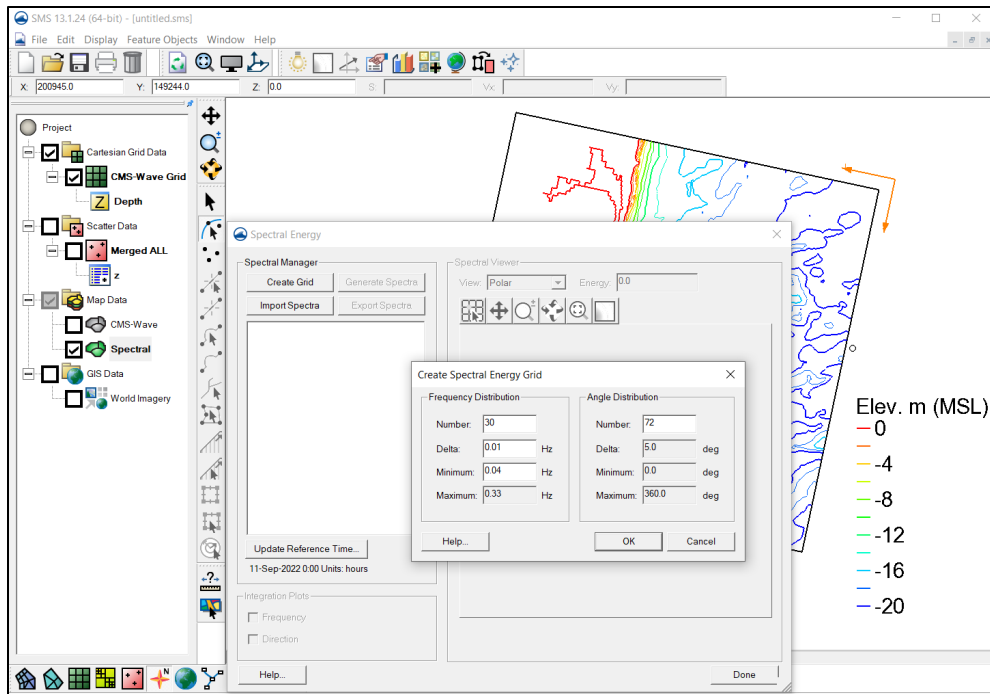

Figure 18. Display Create Spectral Energy Grid dialog.
- Click **OK** to close the Spectral Grid Attributes dialog and also open the *Create Spectral Energy Grid* dialog (Figure 18).